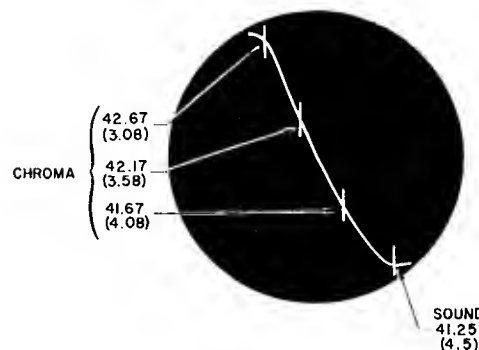

Figure 6.1 (Repeated) Reversal of Sweep when Chroma Switch is Turned On
- 8.5.3.5 Place the CHROMA switch in the ON position. The direction of sweep is now reversed as shown in Figure 6.1 (Repeated).